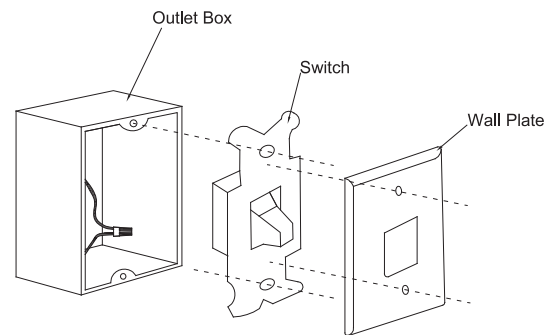

Fig. 25
Step 1: Remove the existing wall plate and the old switch from the wall outlet box. Wire nut the **BLACK** leads (hot) together and push back inside the outlet box. (Fig. 25)